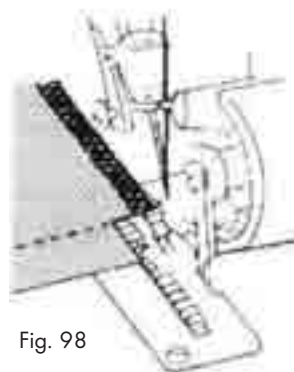

Fig. 98
4. Pull the fabric to the rear, such that the yarn being held by the finger of the stitch plate 18 is released. (For better recognition, on the drawing opposite the sewing foot 21 is not shown - Figure 98).